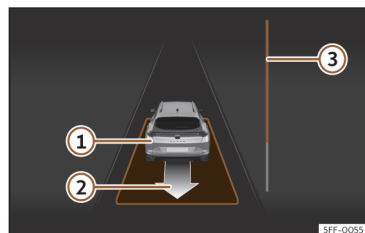

Fig. 182 On the instrument panel display: exit a parallel parking space.
- Reverse until the continuous ParkPilot signal sounds; **OR:** reverse until the instrument panel display shows the forward indication. The progress bar \ggg **Fig. 182**  indicates the distance to cover \ggg page 279.